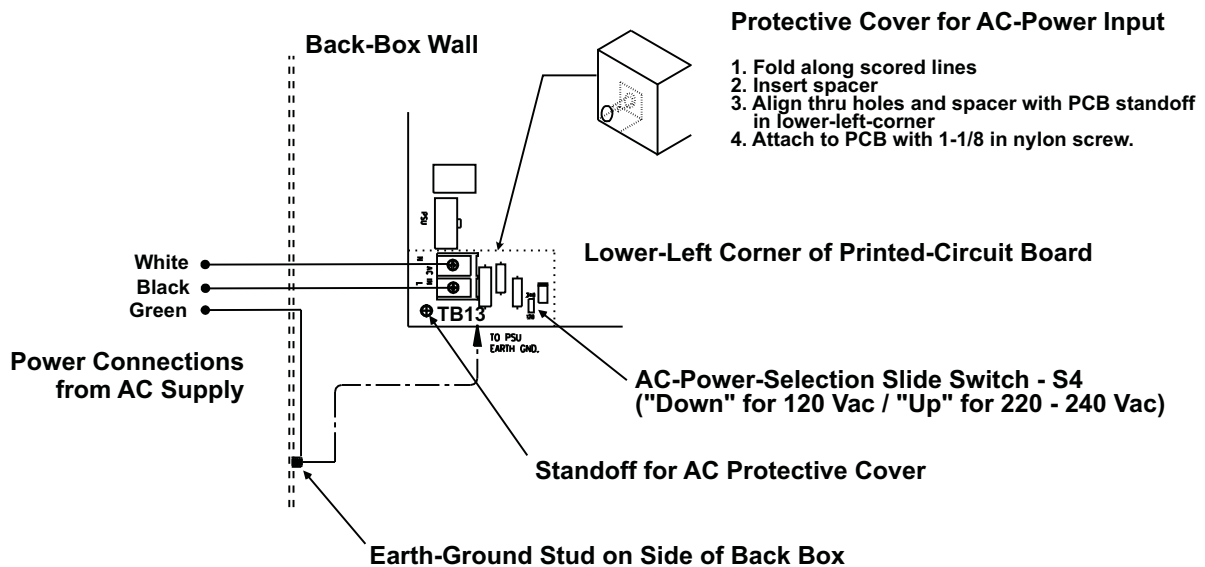

Figure 2-8. Primary-Power Connections
6. Remove the AC Safety Cover, 3/4" nylon spacer, and 1-1/8" nylon screw from the installation kit. Fold the cover along its scored lines and install it over the AC power input terminals, as shown in Figure 2-8.